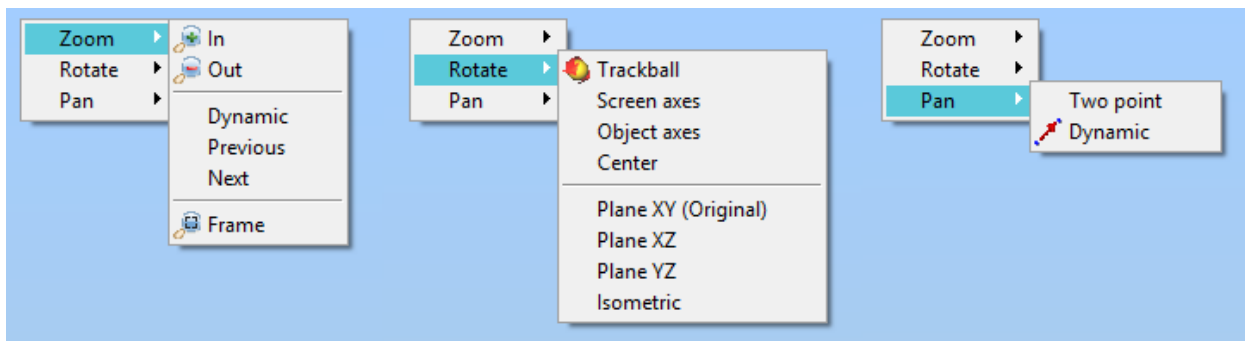

Figure 49. Different areas of the SpreadDEM user interface.
- **Navigation menu (1):** it consists of two different areas, containing this features:
- **Working area (2):** the model will be displayed here. There are some ways of zooming and scrolling through this area: using the options displayed with the right button of the mouse, using hotkeys or using the options in the lateral menu. The first two options will be summarized below:
- **Right mouse click:** the pop-up menu that appears with the right mouse click offers three different features (Figure 49).